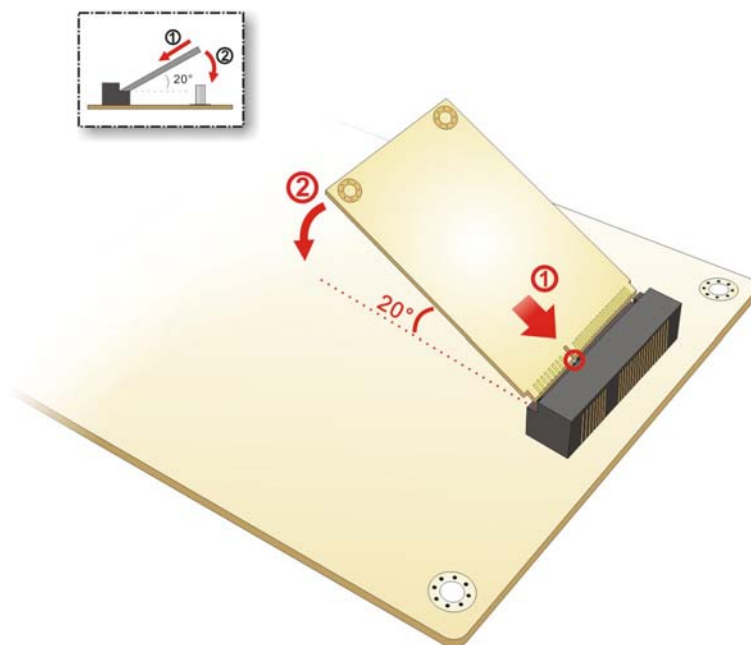

Figure 4-4: Inserting the Full-size PCIe Mini Card into the Slot at an Angle
Step 4: Insert into the socket at an angle. Line up the notch on the card with the notch on the slot. Slide the PCIe Mini card into the socket at an angle of about 20° (Figure 4-4).